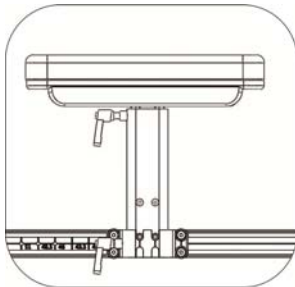

Figure 5-52
5.3.4.2.1 Detachable T-Armrest set is shown as Figure 5-52